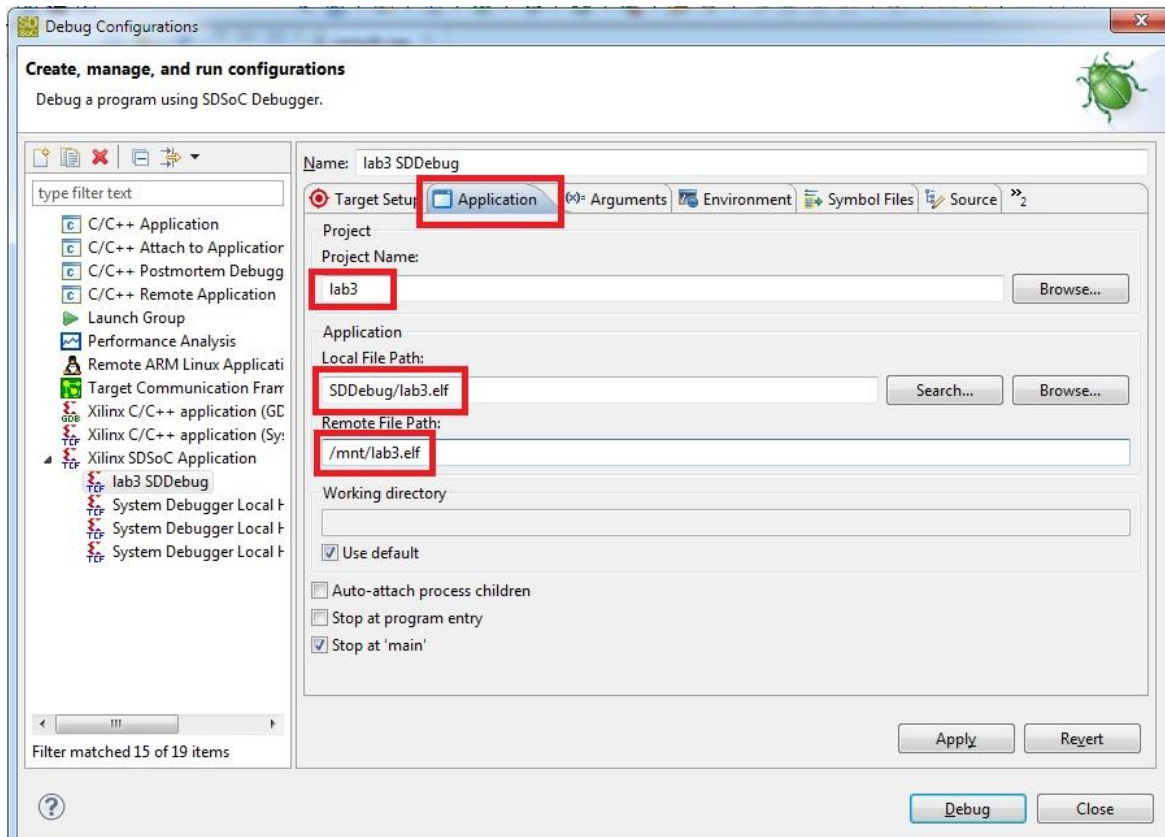

Figure 32. Setting up the Application path
- g. Click the Application tab in the Debug Configuration panel and fill in the project name and the application's local and remote paths to the binary as shown in Figure 32. The local path is the path to the ELF binary relative to your project (for example: Debug/linux_debug_example.elf) and the remote path is the path to the elf binary on the SD card starting at root (for example ./mnt/linux_debug_example.elf).
- h. Click on the Debug button of Figure 32 to go to the Debug Perspective, and run or step through your code as in Step 0, or Step c. Note that your application output is displayed in the Console tab not the Terminal tab.